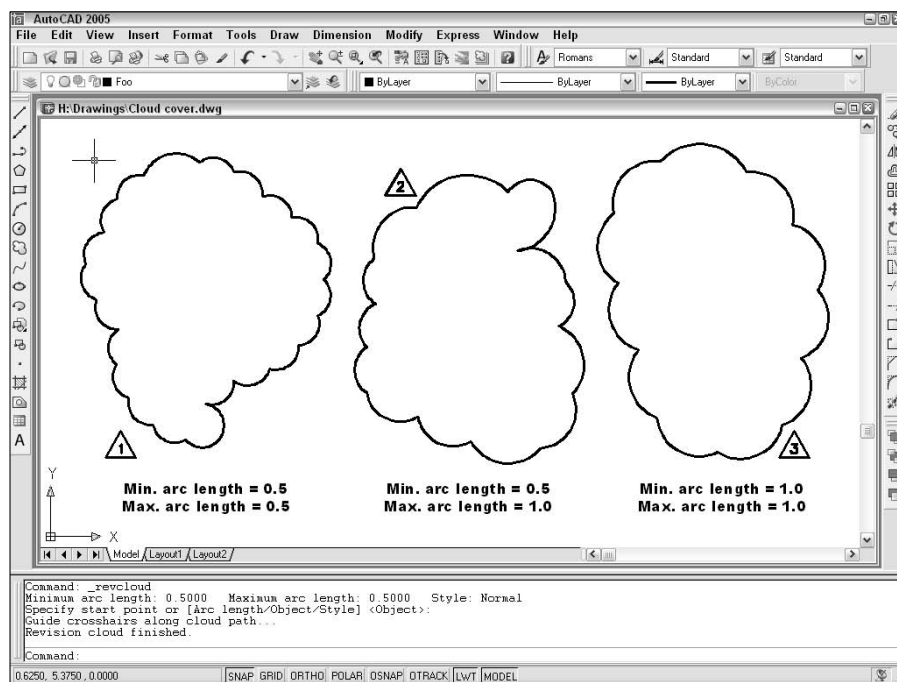

Figure 5-11:
The following example shows you how to draw a revision cloud. Figure 5-11 shows what revision clouds look like.
- ✓ You may need to add a triangle and number, as shown in Figure 5-11, to indicate the revision number. A block with an attribute is a good way to handle this requirement: Chapter 13 covers blocks and attributes.